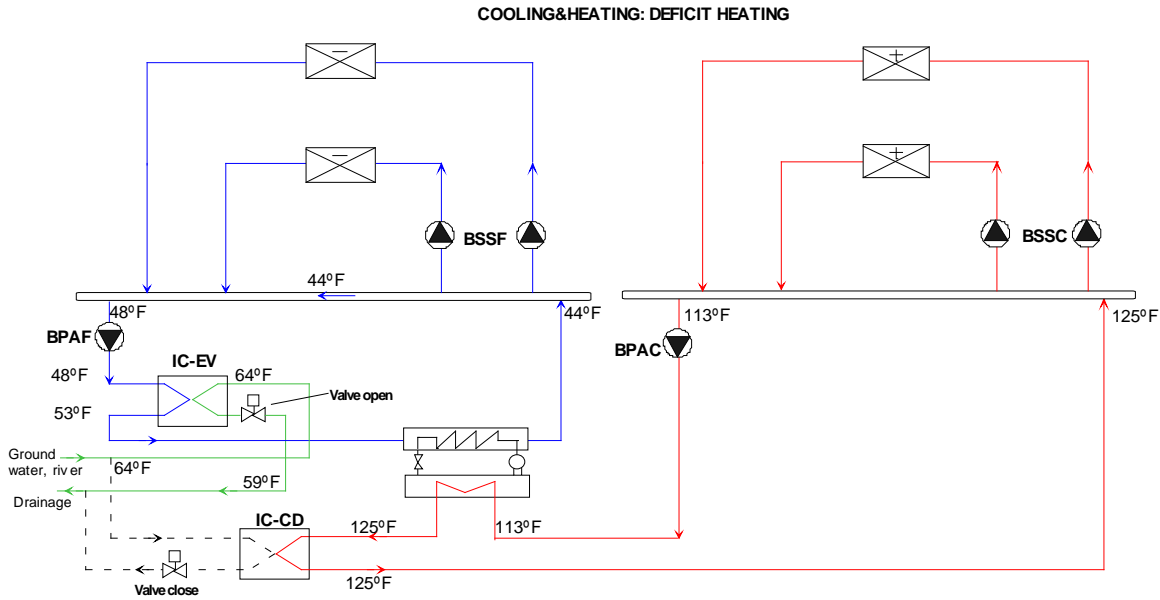

Figure 34. Loop-to-Loop Heat-Pump Heating dominated
4. Heating dominated (Figure 34)– Simultaneous heating and cooling loads exist, with heating being the dominant load. Additional heat from the well loop is made up to the evaporator loop via heat-exchanger IC-EV. The heat-exchanger is controlled to maintain the supply temperature setpoint of the chilled-water loop. Since the temperature leaving the evaporator may be substantially lower than in the heating-only mode, the capacity and energy efficiency of the chiller are reduced.